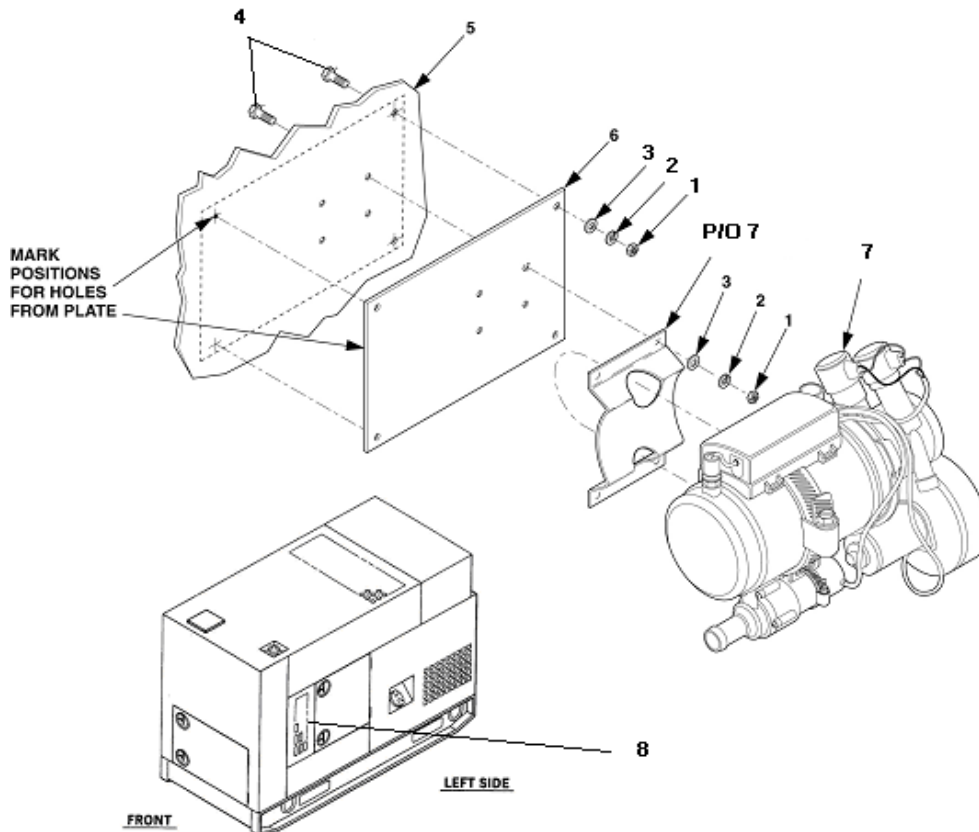

Figure 5-1. Heater Assembly
2. Drill holes outside of left side panel using heater-mounting plate (6), Figure 5-1, as a template. Before drilling holes, look inside housing to verify proper position and clearance of mounting plate. To install the heater mounting plate, perform the following steps: using the plate as a template, place it 1.75" from the top left access door flange and 2" across from the door hinge flange to locate the edge of the plate.